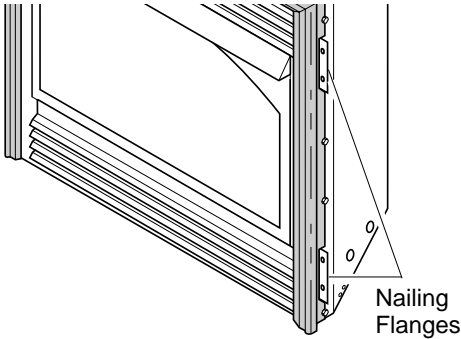

Figure 23 - Location of Nailing Flanges
7. Break off nailing flanges (see Figure 23, page 13) with hammer or pliers.